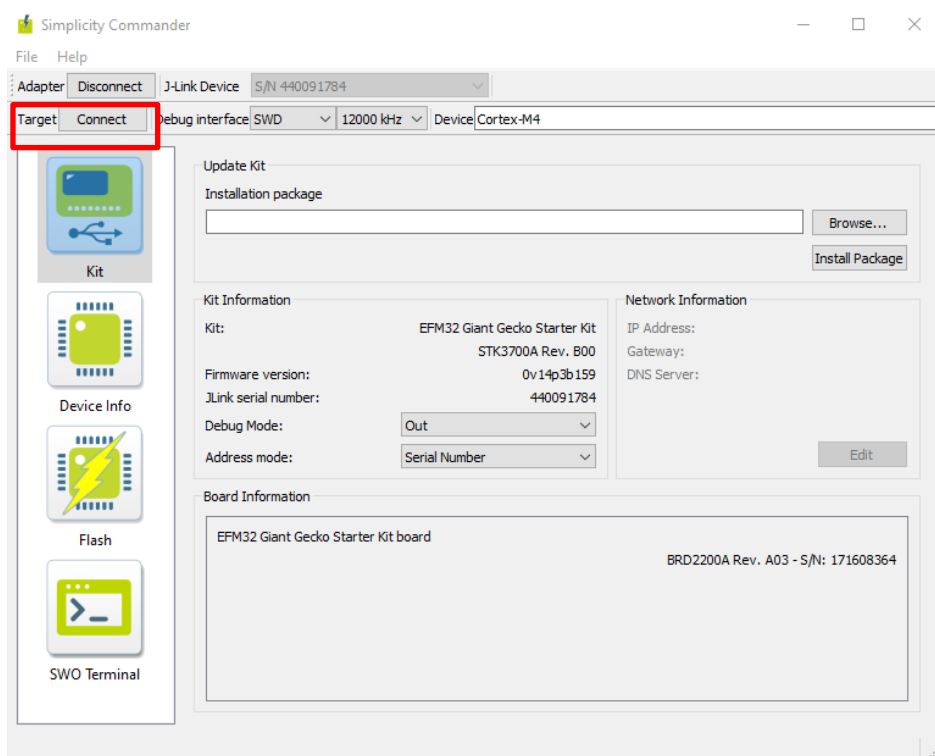

Figure 24 – Connecting to the Target
6. Once CubeStar has been powered up and connected to the programmer, click on the *Connect* button in *Simplicity Commander* as shown in Figure 24.